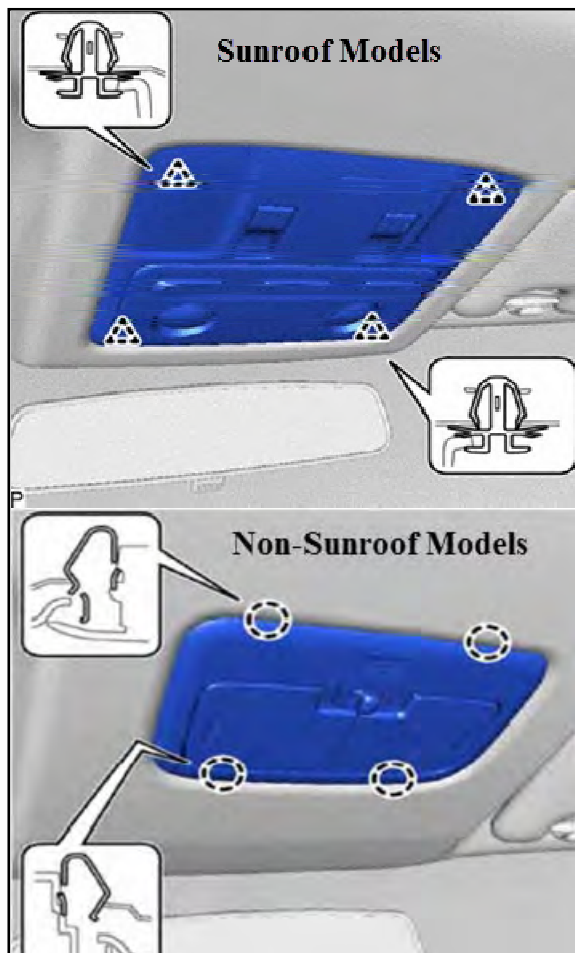

Figure 25
25. Install map light assembly. Sunroof Models: Connect the connector. Engage the 4 clips. See figure 25. Non-Sunroof models: Connect the connector. Engage the 4 claws. See figure 25.